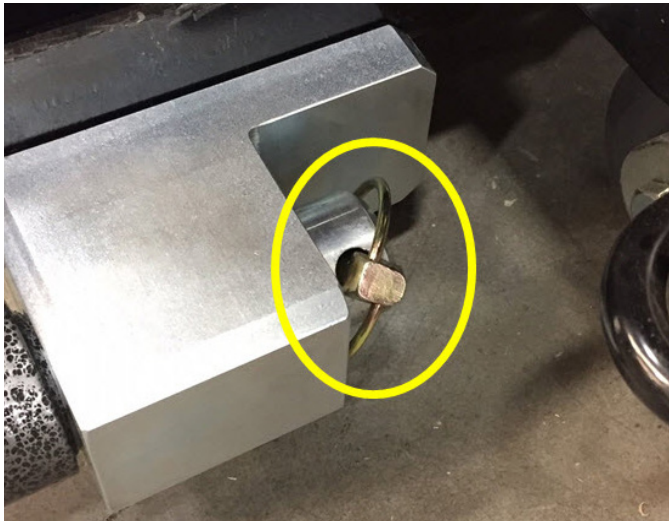

FIG. 3
1. Before lifting machine, ensure that the pins securing the three lift arms are in place. See Figure 3.